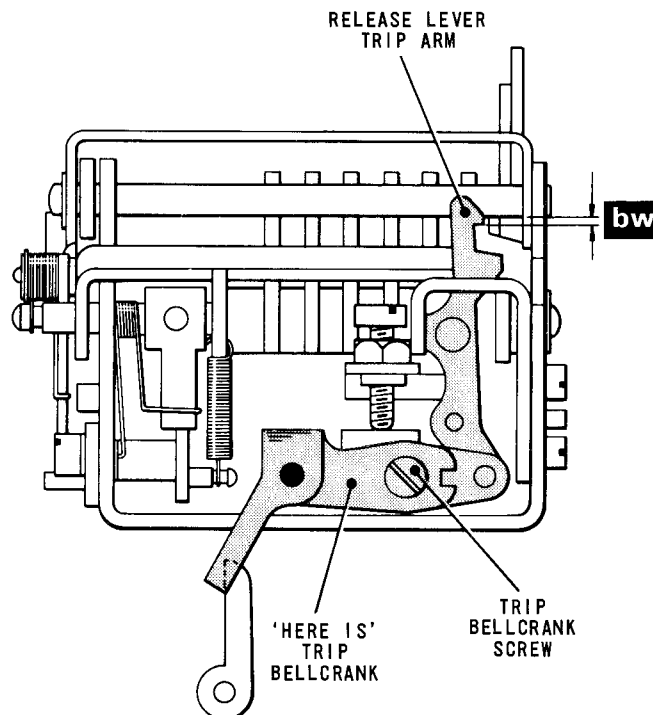
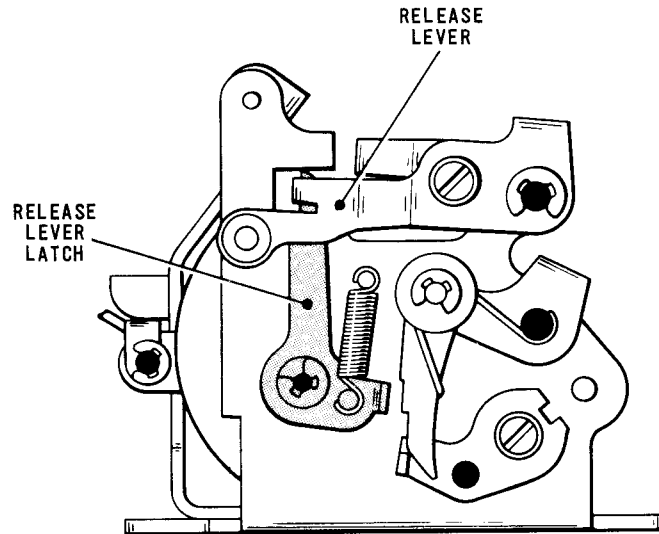
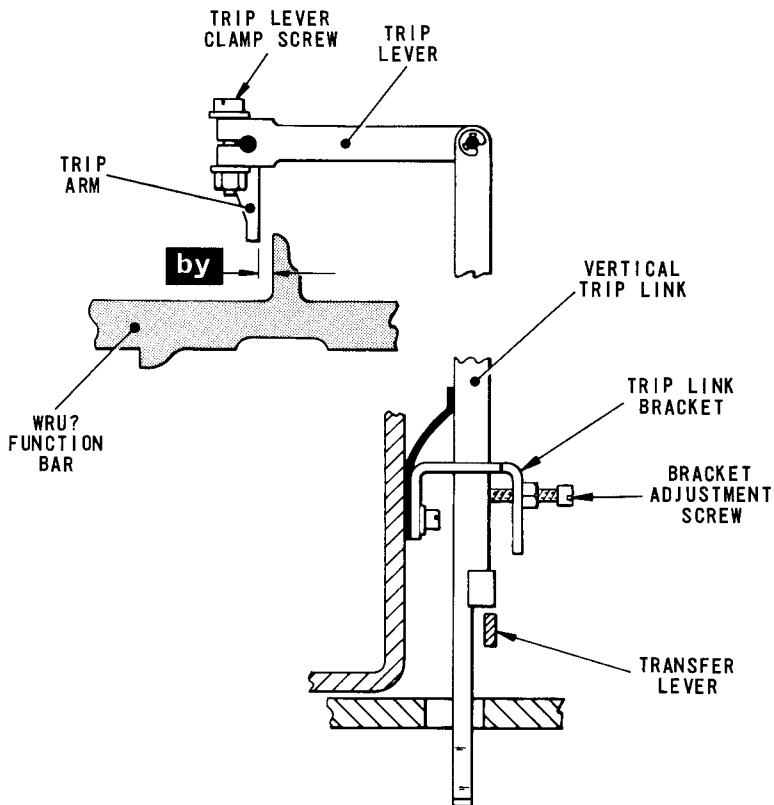

Fig. 4.85 ANSWER-BACK TRIP MECHANISM
Fig. 4.86 ANSWER-BACK UNIT—REAR VIEW
Fig. 4.88 TRIP ARM/WRU? FUNCTION BAR CLEARANCE
- 106.1 Depress the 'Here Is' key. Check that the release lever, Fig.4.86, is engaged on the top step of the release lever latch, and that the release lever trip arm, Fig.4.85, is now pulled .050 - .090 in. (dimension 'bw') below the top surface of the release lever tail.
- 108.1 Move the shift lever, Fig.4.53, to the Figures position. Set up the WRU? code (MSSMS) on the pins. Lift the translator clutch abutment and turn the machine by hand until the WRU? function bar, Fig.4.88, has moved towards the rear of the machine. Check that the release lever, Fig.4.86, is engaged on the top step of the release lever latch but is not restricting the full movement of the function bar.
- 108.2 Return the machine to the rest position and move the shift lever, Fig.4.53, to the Letters position. Depress the letter 'D' key or, if the machine has no keyboard, set up the letter 'D' code (MSSMS) on the pins. Lift the translator clutch abutment and turn the machine by hand until the function bars move towards the rear of the machine. Check that the projection on the WRU? function bar, Fig.4.88, is now clear of the trip arm by a minimum of .003 in. (dimension 'by').
- 110.1 With the machine in the rest condition, check that the front face of the transfer lever, Fig.4.88, is in line with the front face of the block on the vertical trip link.